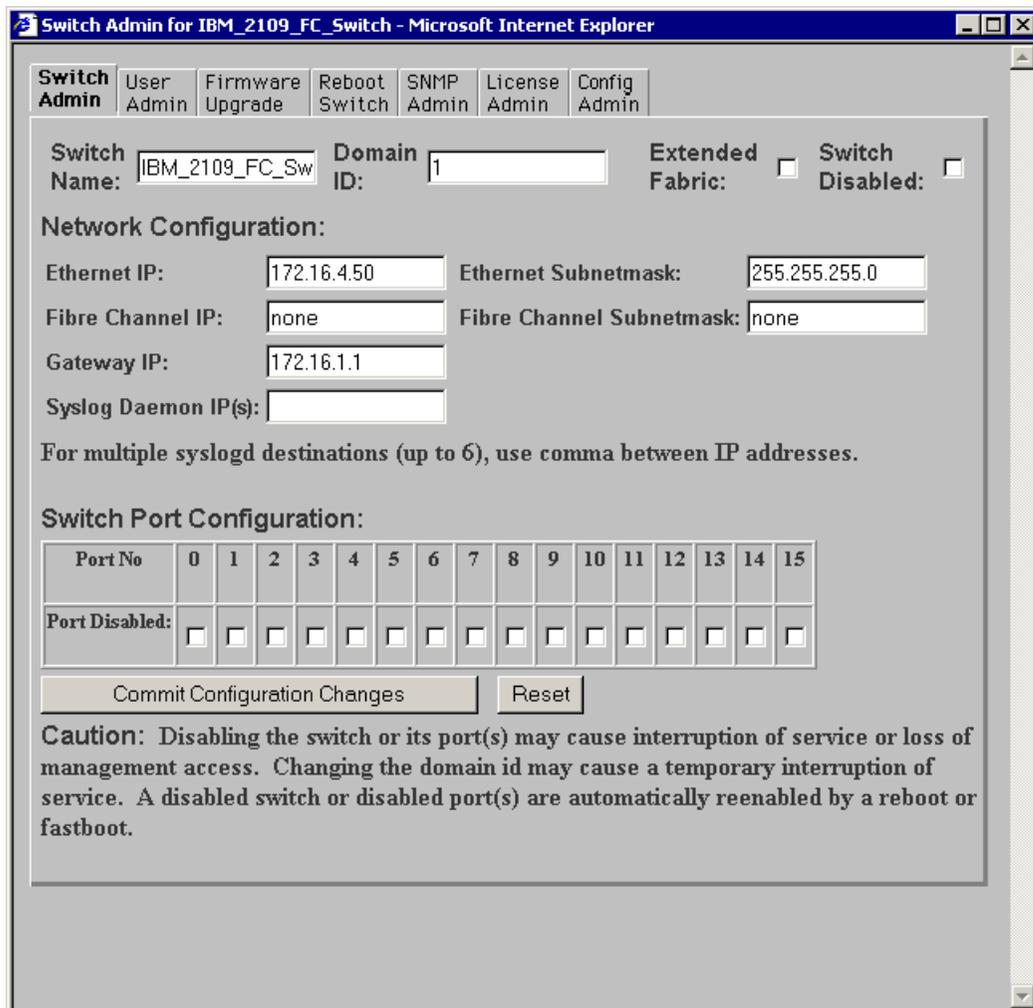

Figure 4-6 Switch administration window
3. Enter the default user ID and password, which are admin and password respectively, and click **OK** to display the switch administration window, shown in Figure 4-6: